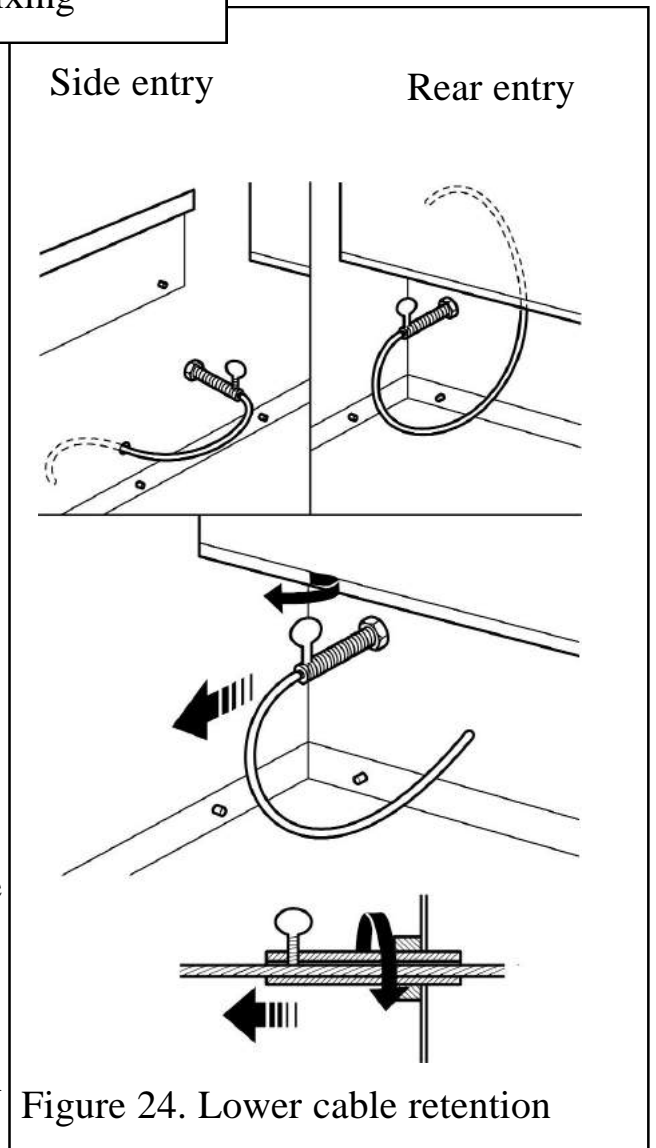

Figure 24. Lower cable retention
11. Pull each cable taut. Push the cable retainers hard up against the back panel. The end of the cable adjuster will pass into the hole. Tighten the screws in the retainers so that they clamp the cables in position. Apply tension to the cables by turning the hexagonal adjusters by hand (See figure 24).
**14.** Feed the free length of the cables into the gap between the inner and outer back panels so that they are available to allow easy removal and refitting of the appliance during subsequent service calls. **Do not cut off the free lengths of cable.** On precast flue installations feed the cables into the small holes at the base of the side panels (See figure 24)